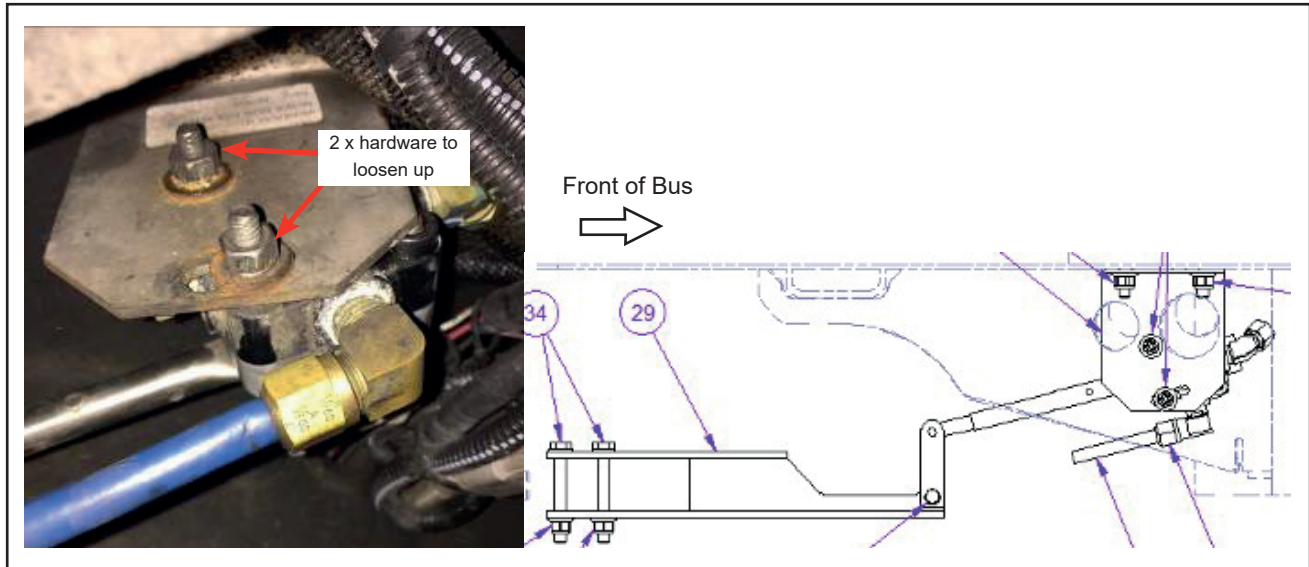

Figure 14 - Loosening the bolts on the Center Leveling Valve
- 1.27. Using a 11mm socket wrench, loosen up the 2x bolts on the center leveling valve. While facing the streetside of the bus, adjust the front right and left plate x plate height (See Figure 14).